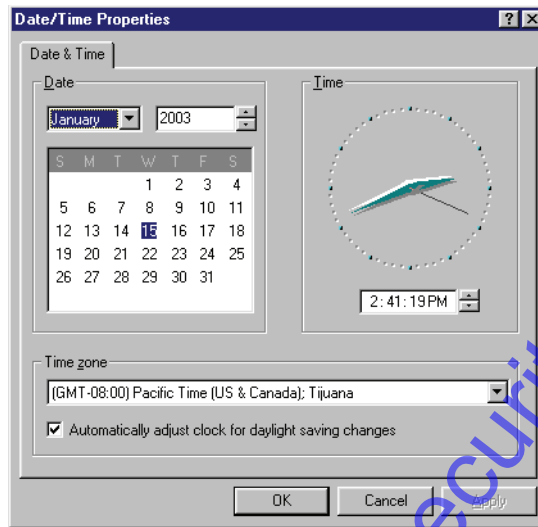

Figure 1-1: Host Computer Clock/Calendar Window
1. Double-click on the 2:41 PM field on the Windows Task Bar. A clock/calendar window appears (see Figure 1-1).